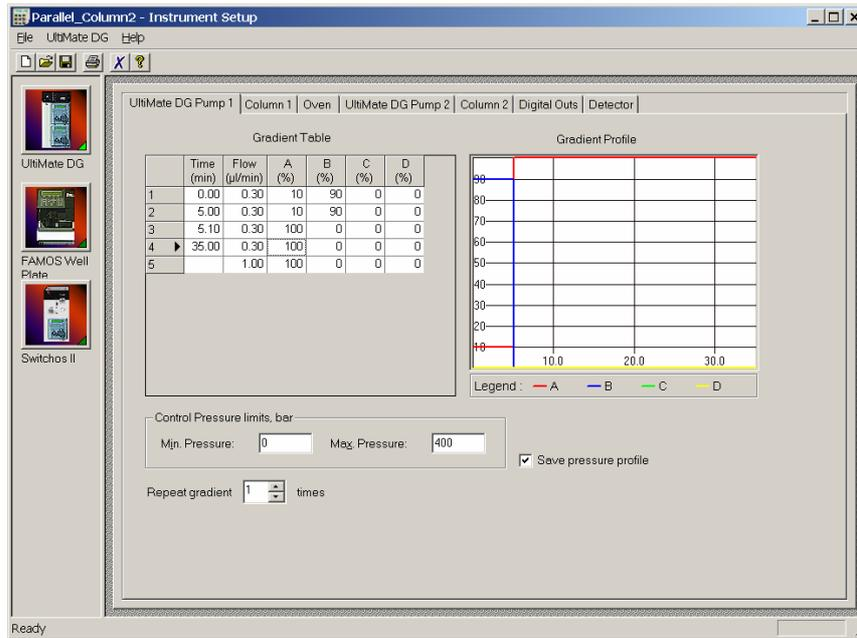
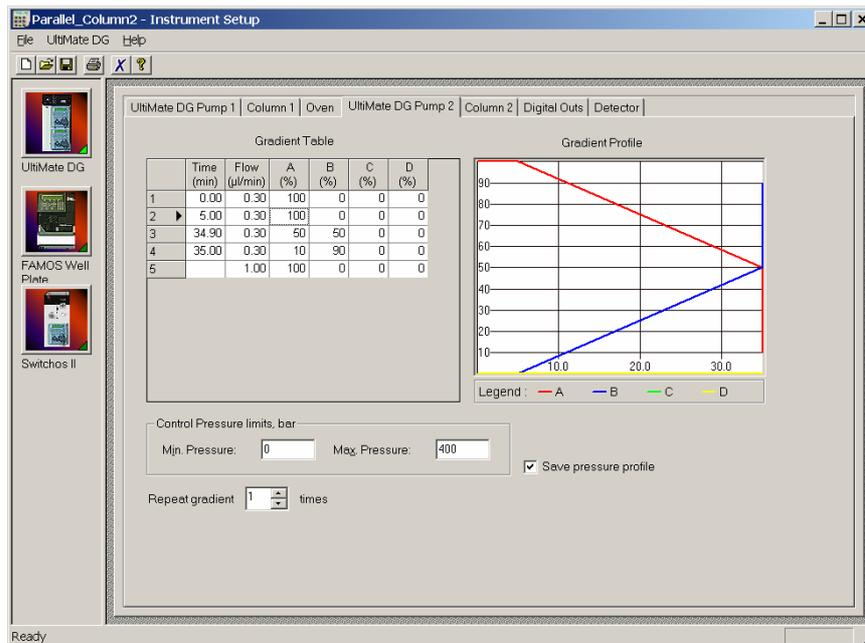

FIGURE 3-22 Gradient Program for the Gradient Pump 1 - Wash and Reconditioning
FIGURE 3-23 Gradient Program for the Gradient Pump 2 – Gradient Elution
- a) Program the gradient pump 1 (which performs the wash and reconditioning step now) as presented in FIGURE 3-22 and the gradient pump 2 as presented in FIGURE 3-23.